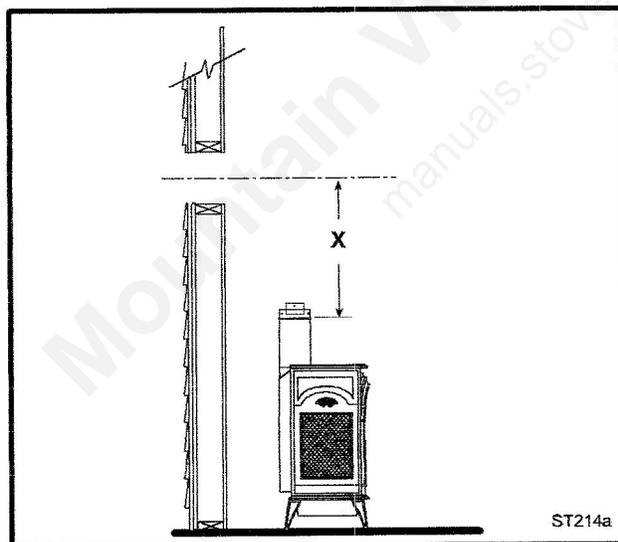

Fig. 31 Determine the vertical pipe length.
4. For CFM Vent Pipe only: If necessary, measure to determine the vertical length (X) of pipe required from the adapter pipe to the wall cutout centerline, including a 2" overlap at the joint. (Fig. 31) use a hacksaw or tin snips to trim the pipe as needed.